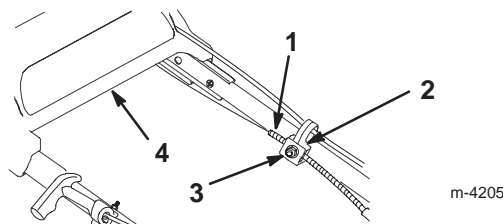

Figure 23
3. Loosen the cable support nut (Fig. 23).
6. Pull the cable jacket down (toward the lawn mower) to remove all the slack in the cable (Fig. 23).
7. While holding the cable jacket down, release the drive bracket and tighten the nut on the cable support (Fig. 23).